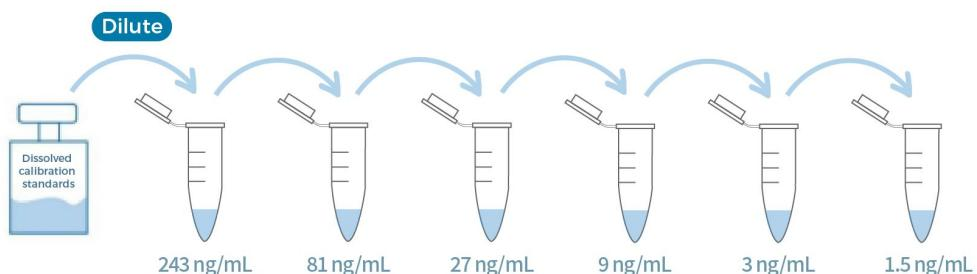

Figure 3. Graphic scheme of *E.coli* HCP-E Calibration Standard solutions
(3) Preparation of Calibration Standard Solutions
- Prepare *E.coli* HCP-E Calibration Standard solutions as indicated in Fig 3 and Table 3.